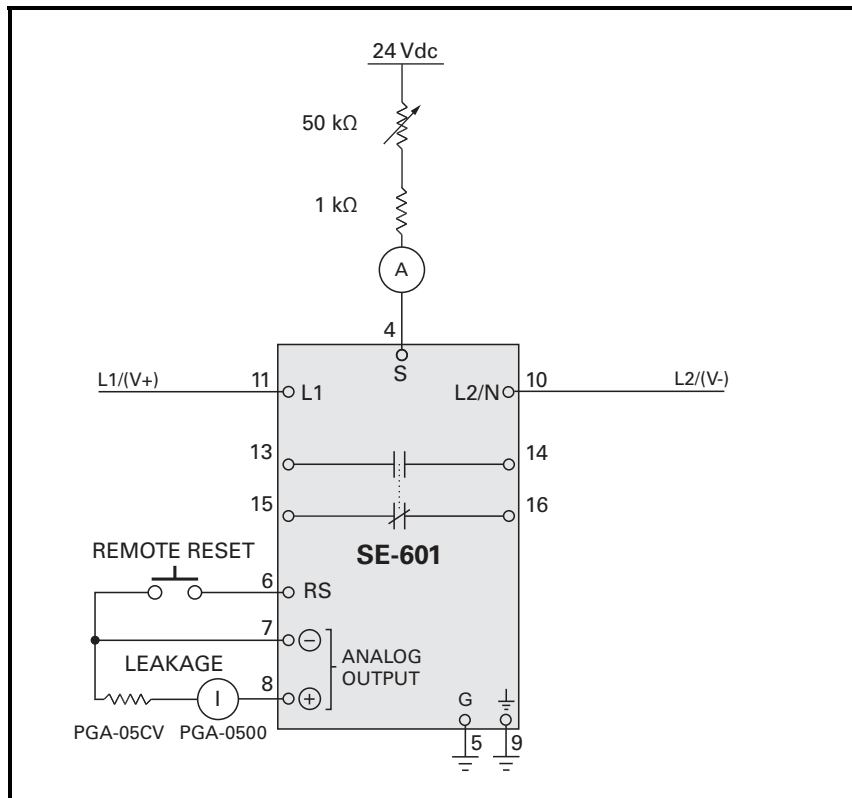

FIGURE 9. Ground-Fault Test Circuit.
- To simulate a ground fault, power down the entire system and remove the connection to terminal 4 (S). Ensure that terminal 5 is connected to ground. Using a 24 Vdc source, 50 k Ω variable resistor, fixed 1 k Ω resistor, and an ammeter, connect the circuit as shown in Fig. 9. Select a trip current on the SE-601, and slowly vary the resistance until the monitor trips. Never exceed 30 mA through the monitor.